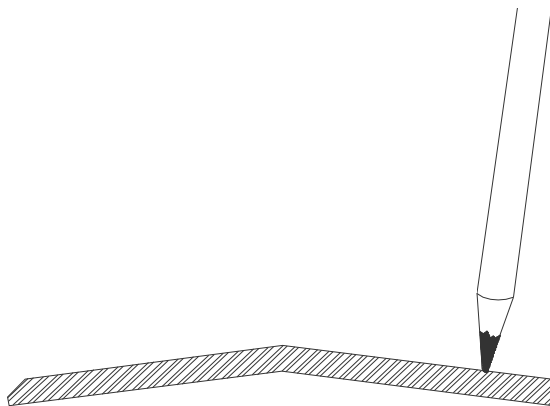
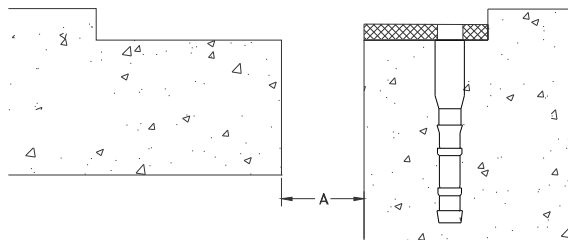

Figure 2
Figure 9
STEP 3. Select a section of the cover plate. Mark the location for the anchor holes on the cover plate (see Figure 2). The anchor holes must be centered a nominal 1" from the selected edge of the plate, with one anchor hole centered at the midpoint of the plate length and an anchor hole centered at a nominal 6" from each end of the plate. Repeat this procedure for each section of the cover plate.
STEP 18. If epoxy adhesive is used to attach the neoprene pad to the concrete, place the pad back into its installed position, and using the adhesive (by others, Balco, Inc. recommends Burkepoxy NS manufactured by Edoco; Phone: 310-834-3401 or: 888-BURKEUSA; Website: www.burkebyedoc.com), attach the 3" pad to the blockout as shown in Figure 2. The adhesive must be applied in accordance with the adhesive manufacturer's written instructions. Ensure that the edge of the pad is flush with the edge of the cover plate when both are installed (see Figure 9). Ensure that the pad is properly aligned.